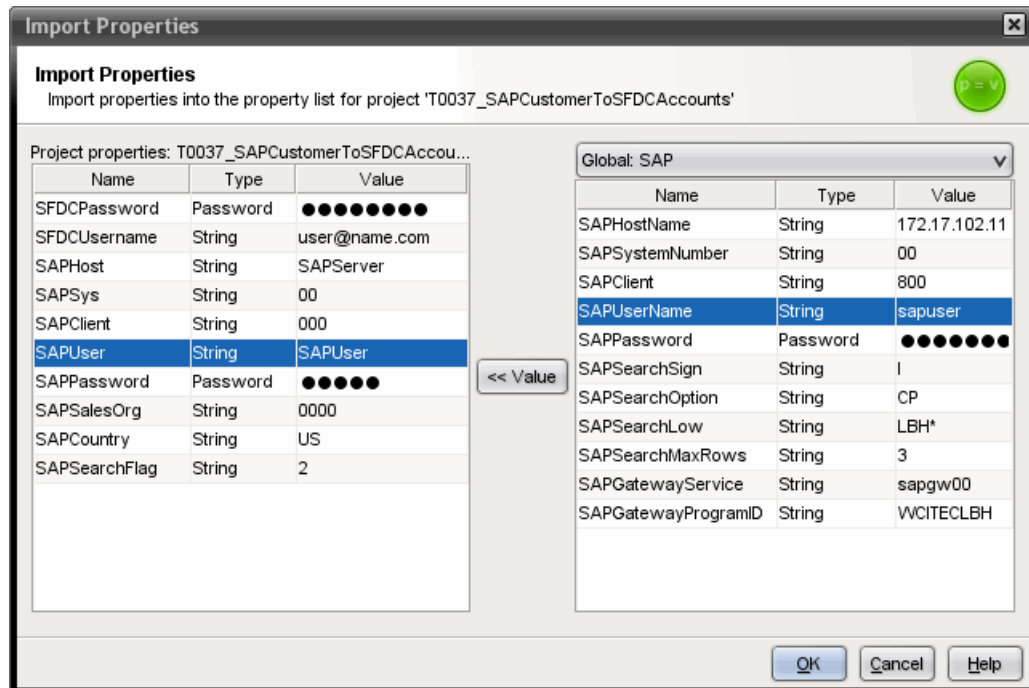

Figure 10-8 Import properties
**Importing global configuration properties:** If you created global configuration properties for some of these values, click **Import** to open the Import Properties panel, shown in Figure 10-8. Select the source and target fields for a value, and then click **Value** to import those configuration. When you are finished, click **OK**.